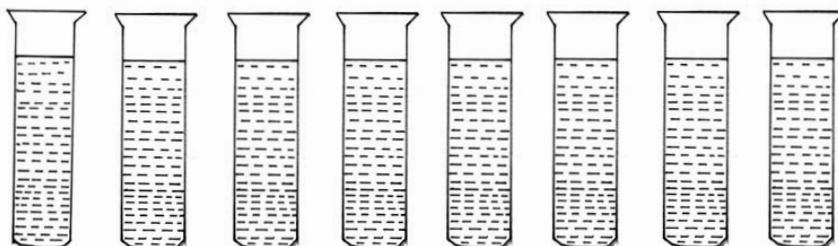

Figure 9.4 Experiment by the addition of sodium hydroxide in different salts solution
- a. Arrange 1 stand and 8 test tubes as in the figure (Fig 9.4).